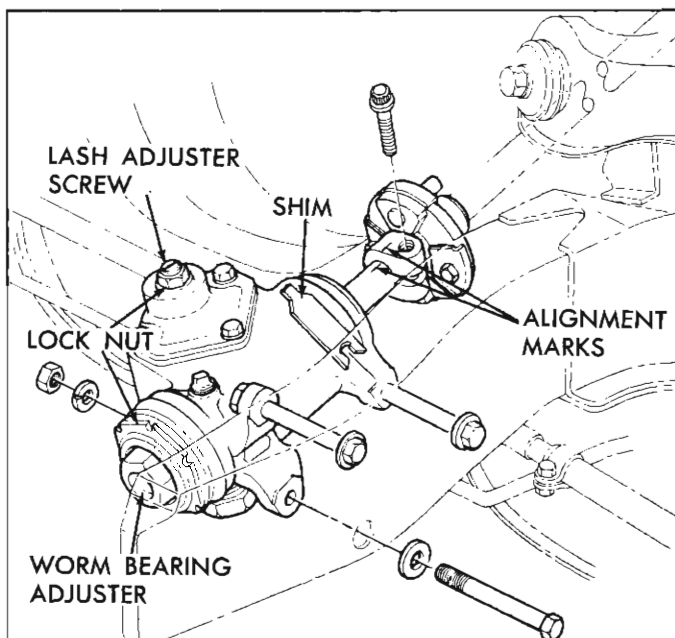
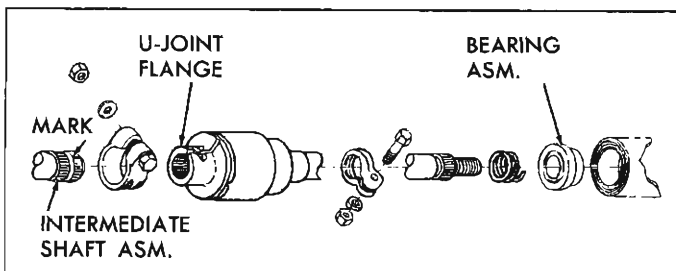

Fig. 4—Steering Gear Adjustment Points
Fig. 7—Upper Shaft Alignment
2. Loosen the pitman shaft lash adjuster screw lock nut and turn the adjuster screw a few turns in a counterclockwise direction (fig. 4). This removes the load imposed on the worm bearings by the close meshing of rack and sector teeth. Turn steering wheel gently in one direction until stopped by gear, then back away about one turn.
4. To adjust worm bearings, loosen worm bearing adjuster lock nut and turn worm bearing adjuster shown in Figure 4 until there is no perceptible end play in worm. Check pull at wheel rim, re-adjusting if necessary to obtain proper pull. Tighten lock nut and recheck pull. If the gear feels "lumpy" after adjustment of worm bearings, there is probably damage in the bearings due to severe
5. After proper adjustment of worm is obtained, and all mounting bolts securely tightened, adjust lash adjuster screw. First turn the steering wheel gently from one stop all the way to the other, carefully counting the total number of turns. Then turn wheel back exactly half way, to center position. Note position of mark on top of wormshaft just below the coupling clamp. This mark should be at top of shaft (fig. 4), at 12 o'clock position and in line with the saw cut at the coupling lower clamp. Turn lash adjuster screw clockwise to take out all lash in gear teeth, and tighten lock nut.
gear high point (fig. 4). This mark should be at the top side of the shaft at 12 o'clock position and lined up with the mark in the coupling lower clamp. If this alignment is correct, check the alignment of mark on upper end of intermediate shaft with saw cut in upper universal joint (fig. 7).